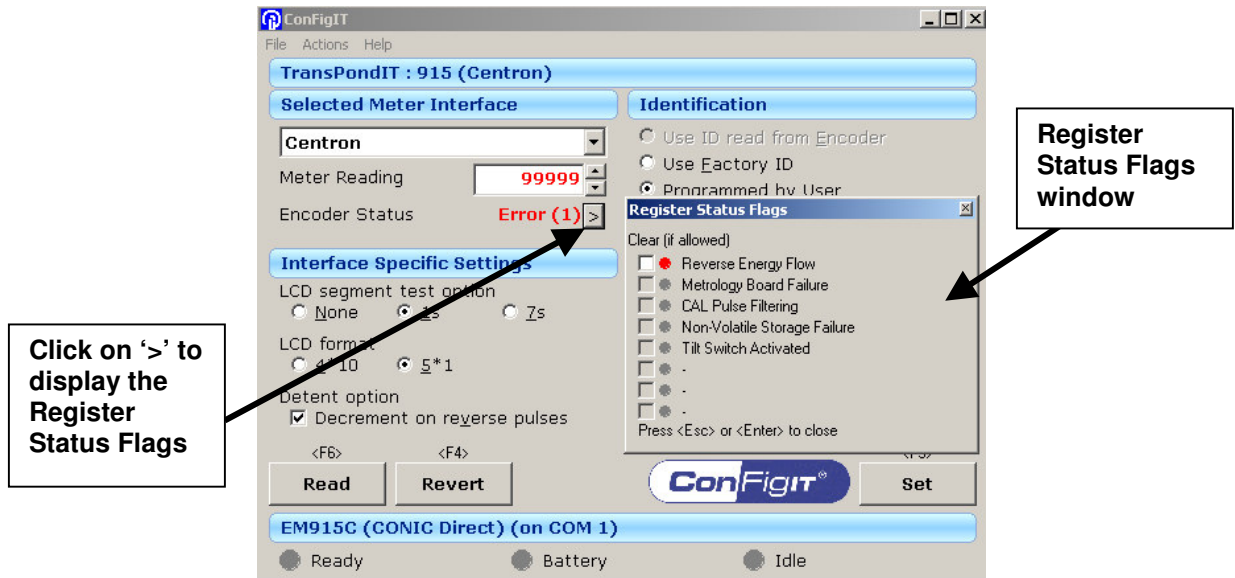

Figure 20: Display Register Status Flag window
- Clicking on the '>' sign next to the "error code" window on the ConFigIT software brings up the Register Status flags window for explanation (see Figure 20).
- 1) Click on the '>' sign (see Figure 20)